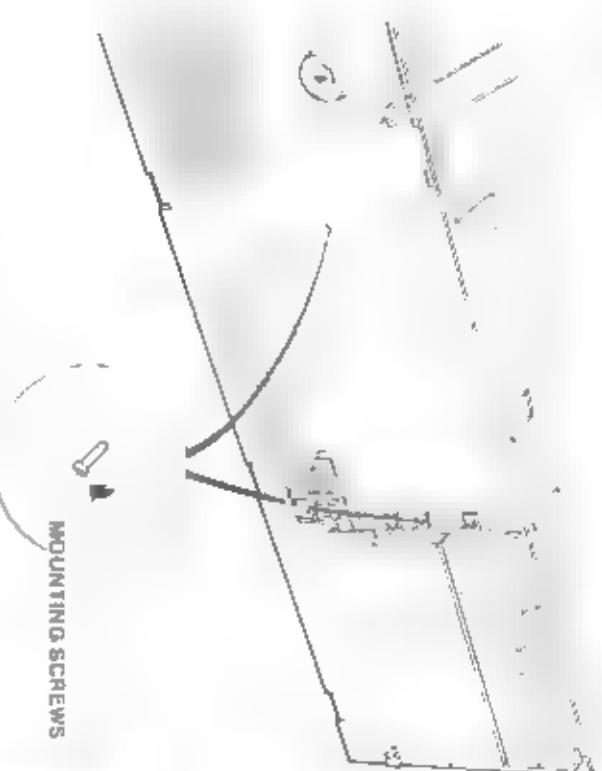

Figure 11-18 Securing the Drive
- 9 Replace the cover plate and screws, and secure the drive in the chassis (Figure 11-18).